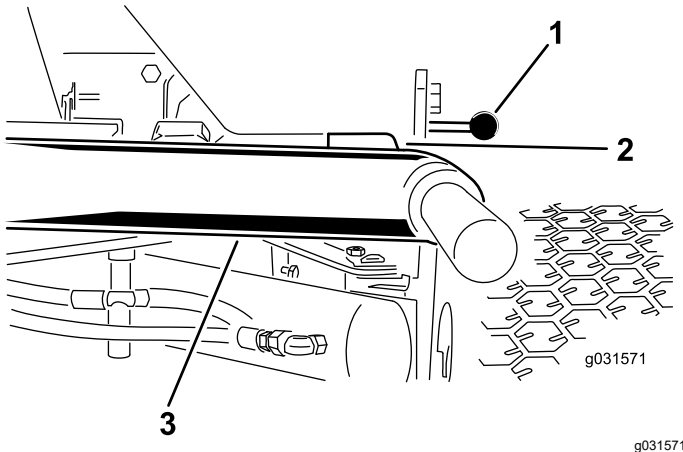

Figure 12
1. Start the engine, raise the cutting units, and ensure that the clearance between each lift arm and the floor-plate bracket is 5 to 8 mm (0.18 to 0.32 inch) as shown in Figure 12.